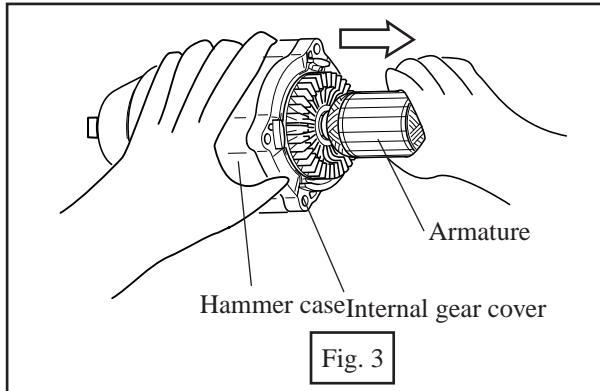

Fig. 3
- (3) Do not separate internal gear cover from hammer case, because the grease leaks out, or inner parts can fall off the hammer case. Then, holding hammer case together with internal gear cover, pull off the armature as illustrated in Fig. 3.